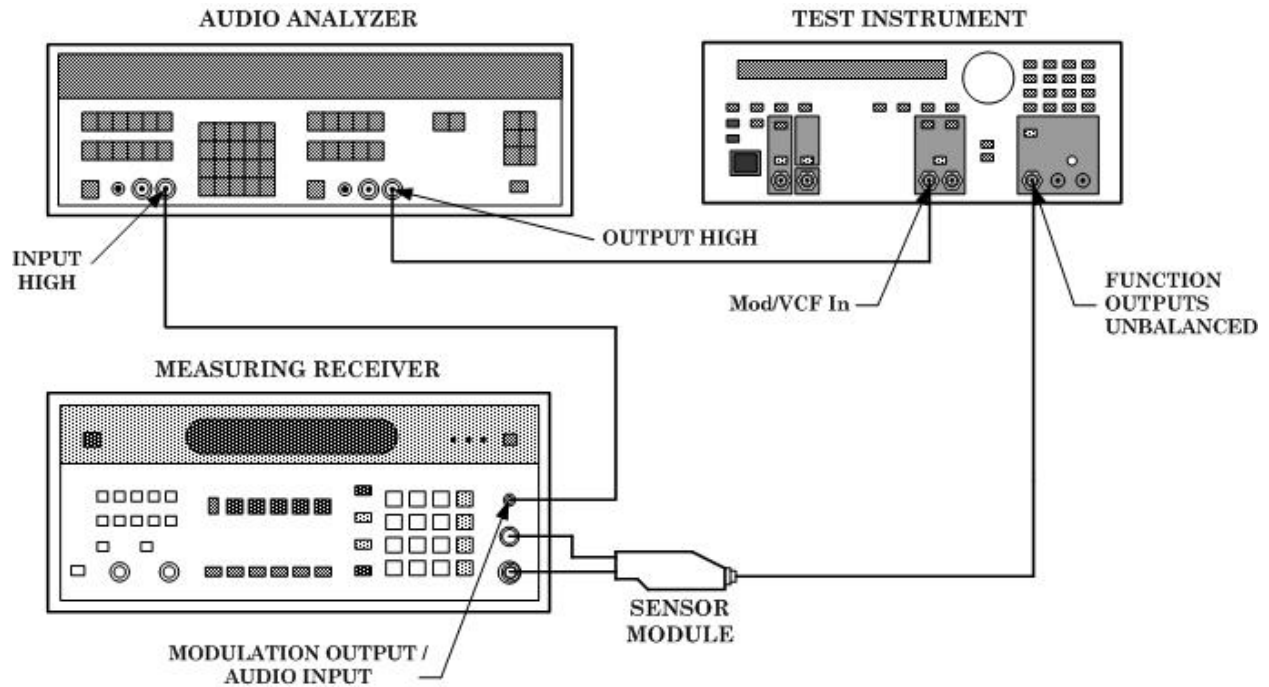

Figure 1. FM distortion - equipment hookup.
(2) Connect equipment as shown in figure 1.